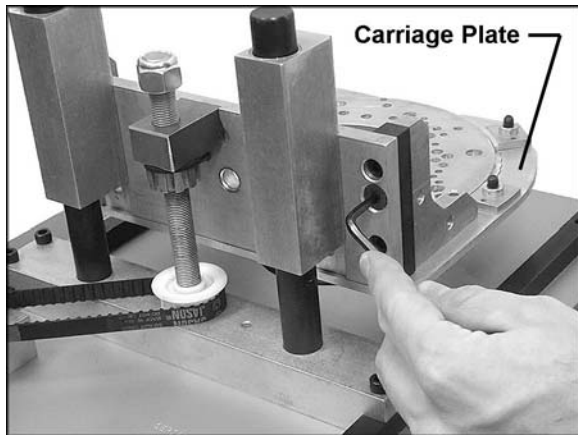

Figure 1
1. Turn your XACTA LIFT upside down on the table. With the 5/32 hex wrench supplied, remove the four 1/4-20 x 1 flat head cap screws (Fig. 1) and remove the aluminum carriage plate. (NOTE: If the screws are blocked, crank the XACTA LIFT with the adjustment handle until all four screws are exposed.)